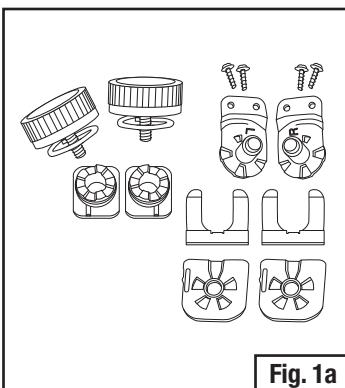

Fig. 1a
- Fig. 1a shows the M-146SG Welding Knob and Pivot Kit. From left to right, top to bottom: spring loaded knob, cam and pivot post, visor frame post, metal spring clip, back plate (Fig. 1a).